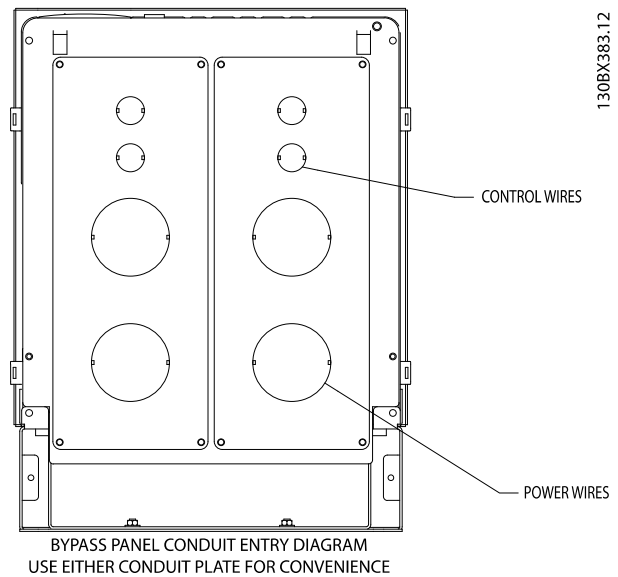
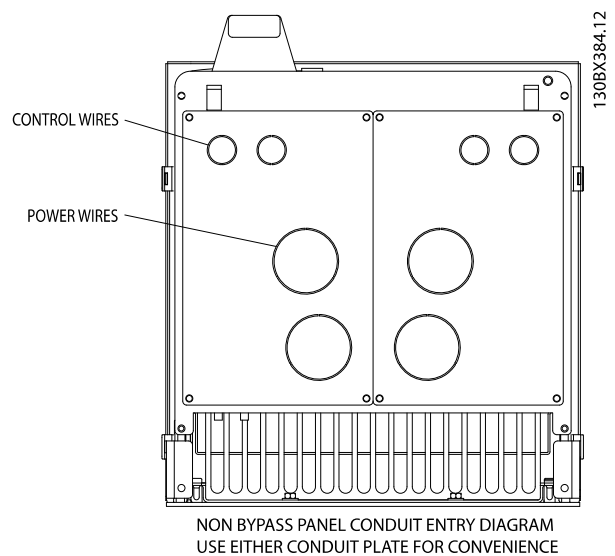

Figure 3.13 Bypass Panel Conduit Entry Diagram
Figure 3.14 Non Bypass Panel Conduit Entry Diagram
- Removable access knockout covers are provided for cable connections (see *Figure 3.13* and *Figure 3.14*).